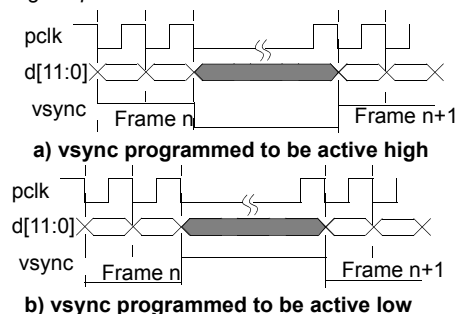

Figure 43. *vsync* in Level Mode
- Level mode should be used when the pixel clock, *pclk*, is programmed to operate in *free running mode*. In level mode the *vsync* output pin will go to the specified level (high or low) at the start of each frame and remain at that level until the last pixel of that row in the frame is placed on *d[11:0]* as shown in Figure 43. The *hsync* level is always synchronized to the active edge of *pclk*.